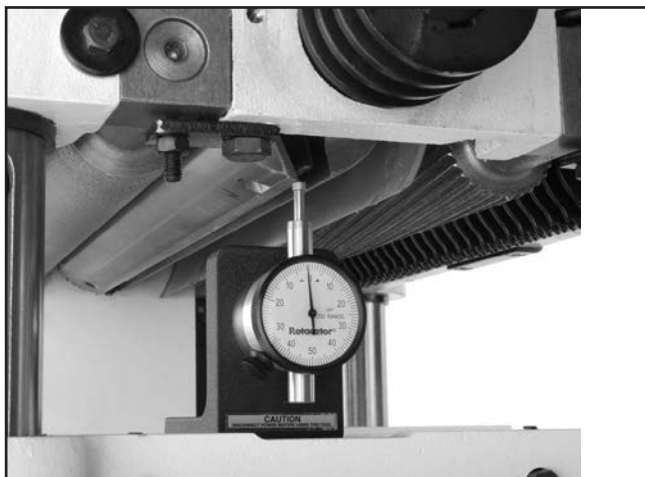

Figure 54. Finding BDC of cutterhead.
6. Rotate the cutterhead with the V-belt pulley so one of the knives is at BDC as shown in **Figure 54**.
7. Use your Rotacator to find bottom dead center (BDC) of any knife/insert edge by slowly rocking cutterhead pulley back and forth, then set Rotacator dial to "0" (see **Figure 54**).
8. Keeping Rotacator dial at "0", position it under right-hand side of infeed roller (see **Figure 54**) and find BDC of a serrated edge.